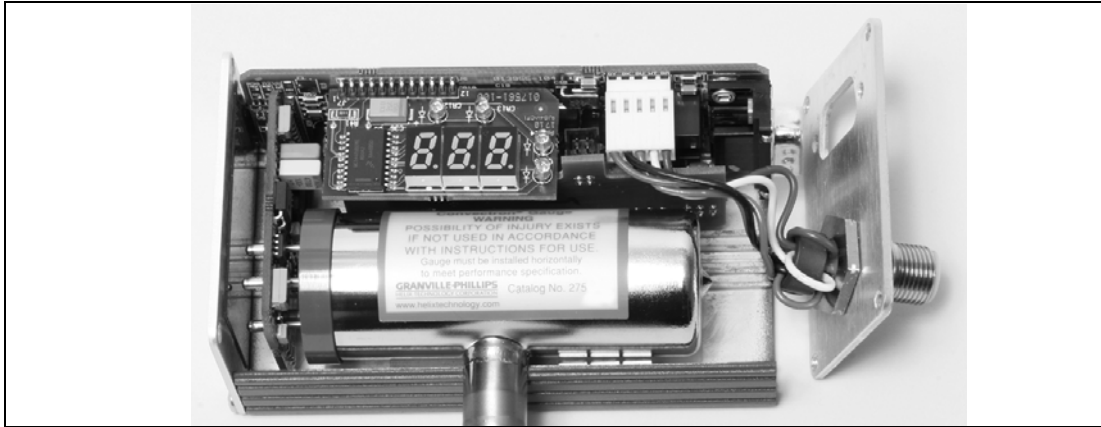

Figure 6-2 Mini-Convectron Module with Face Plate Removed
5. Carefully pull the connector plate away from the module, being careful not to damage the wires that connect to the DeviceNet connector. See Figure 6-2.